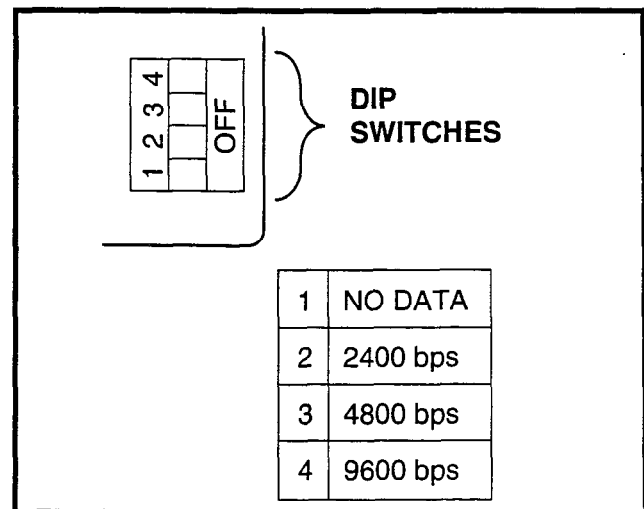

FIGURE 4-39—DDIU-MAT DIP SWITCHES
5.85 Several DIP switches found on the bottom of the DDIU-MAT must be set for proper operation (Figure 4-39).